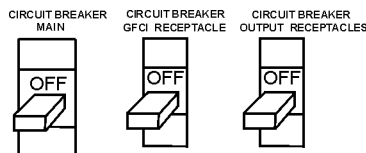

Figure 39. Main, GFCI and Load Circuit Breakers
1. Be sure to disconnect the electrical load and switch the **main**, **load** and **G.F.C.I.** circuit breakers (Figure 39) to the "OFF" position prior to starting the engine.